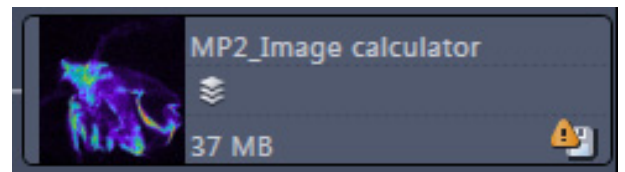

Fig. 335 Image with warning symbol
- In case the image is not saved or has been processed, a warning symbol is displayed on the right side (Fig. 335).